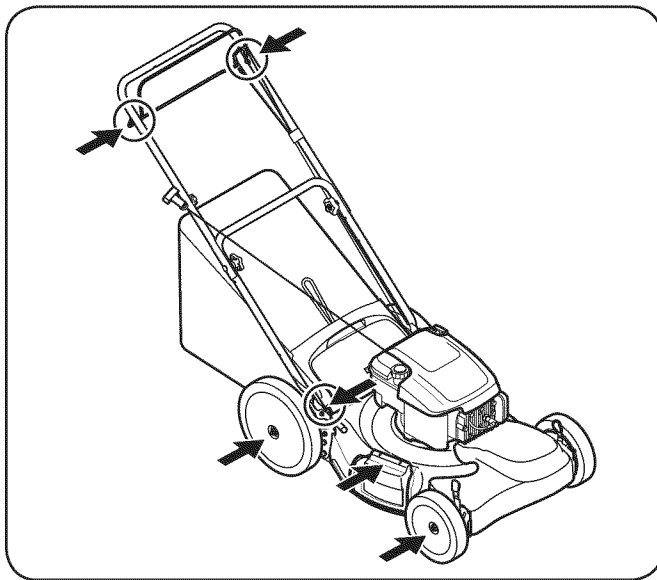

Figure 6-1
1. Lubricate pivot points on the blade and drive control at least once a season with light oil. These controls must operate freely in both directions. See Fig. 6-1.
2. Lubricate the wheels at least once a season with light oil (or motor oil). If wheels are removed for any reason, lubricate surface of the pivot arm and inner surface of the wheel with light oil. See Fig. 6-1.
3. Lubricate the torsion spring and pivot points on the rear discharge door and side mulch plug periodically with light oil to prevent rust. See Fig. 6-1.